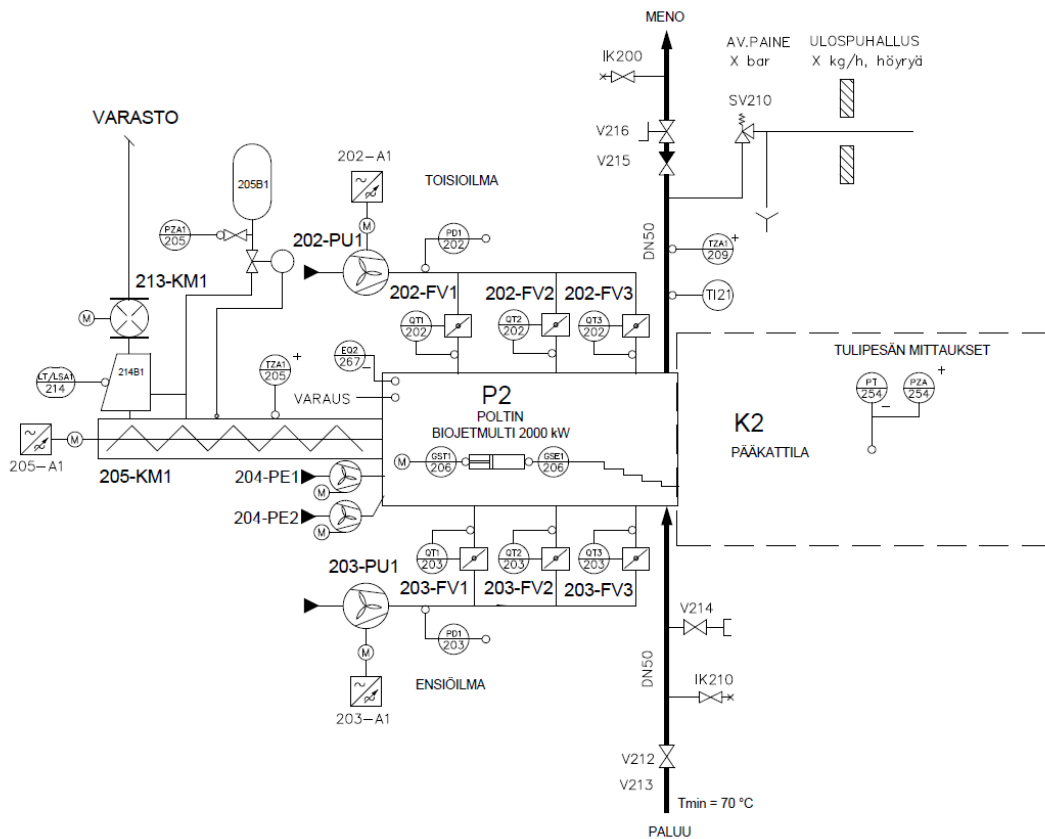
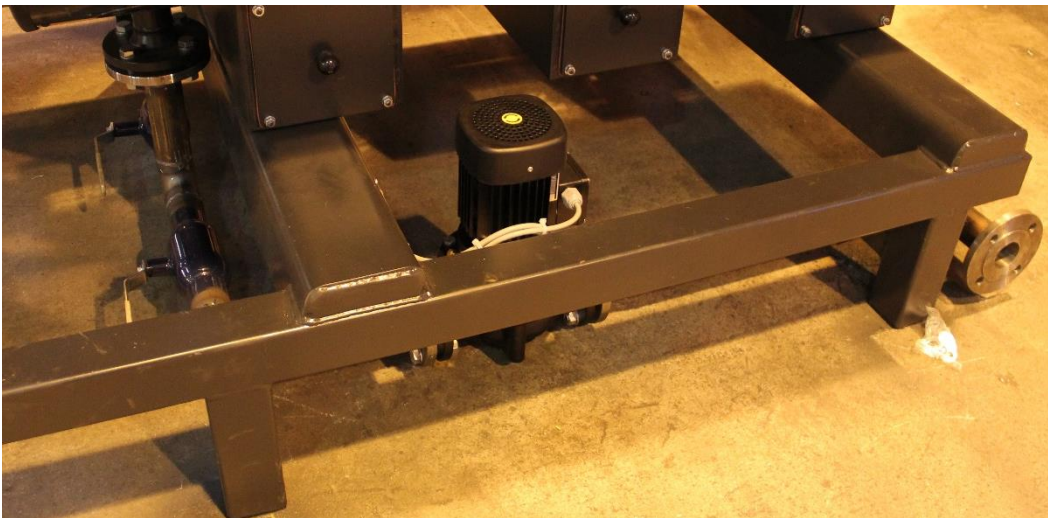

Figure 6. P&ID example for 1500 kW model.
Figure 8. Pre-installed pipes, valves and pump.
For 1500 kW model, a P&ID example is shown below in fig. 6 and fig. 8 shows the pre-installed pipes.
5. Powder fire extinguishing system (fig. 8)